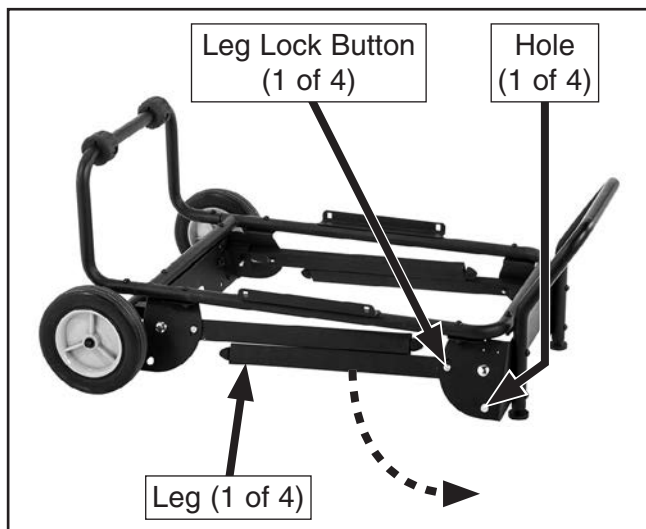

Figure 3. Location of stand legs, leg lock buttons, and leg lock holes.
1. Push leg lock buttons in and unfold legs until lock buttons click into place in holes shown in **Figure 3**.